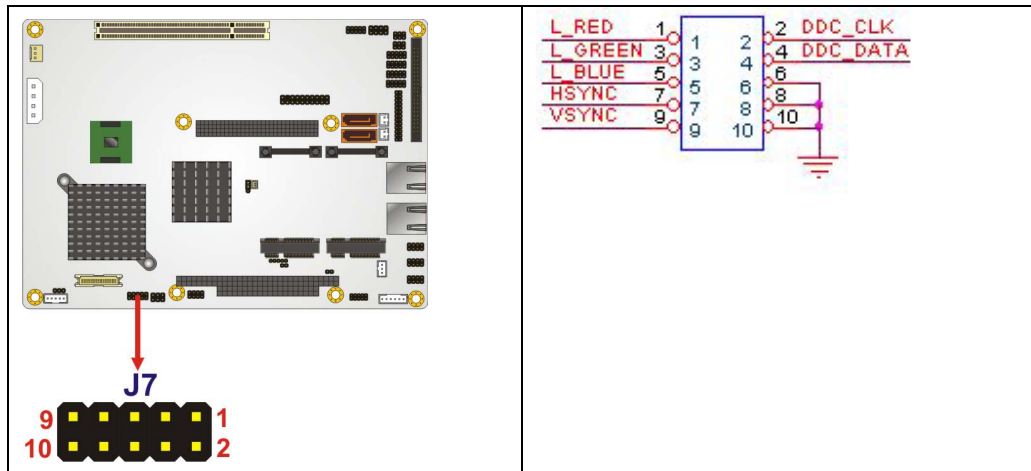

Figure 4-8: VGA Connector Pinout Locations
- CN Location:** See Figure 4-8